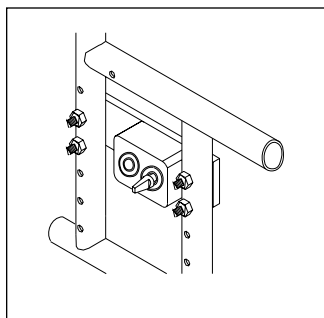

Fig. 11 Quickie & Zippie 2
3. Forward or Rearward Axle Adjustment (Figs. 11, 11a & 11b)